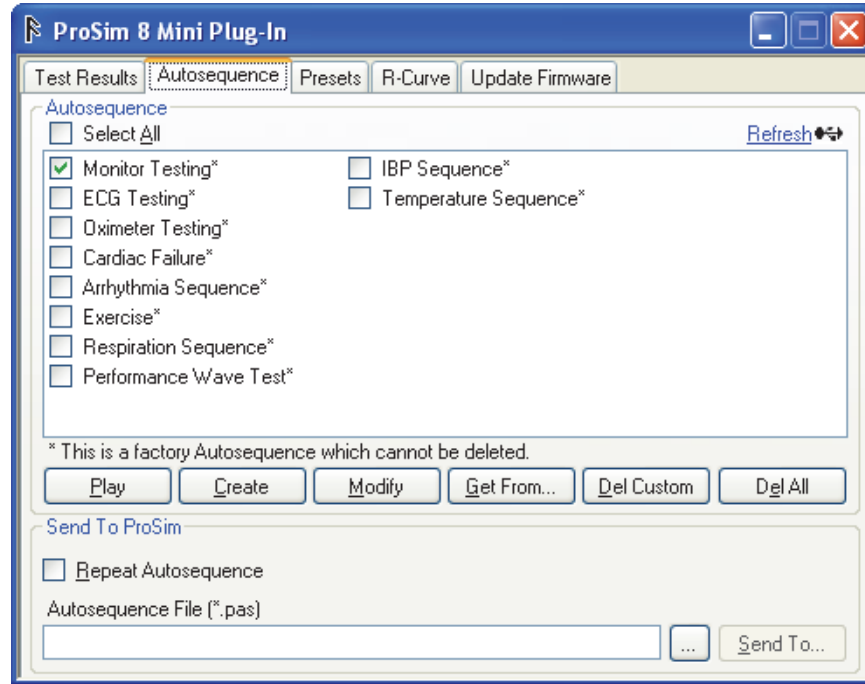

Figure 5-15. Autosequence Window
1. Check the checkbox next to the autosequence you want to start with in the Autosequence window. See Figure 5-15.